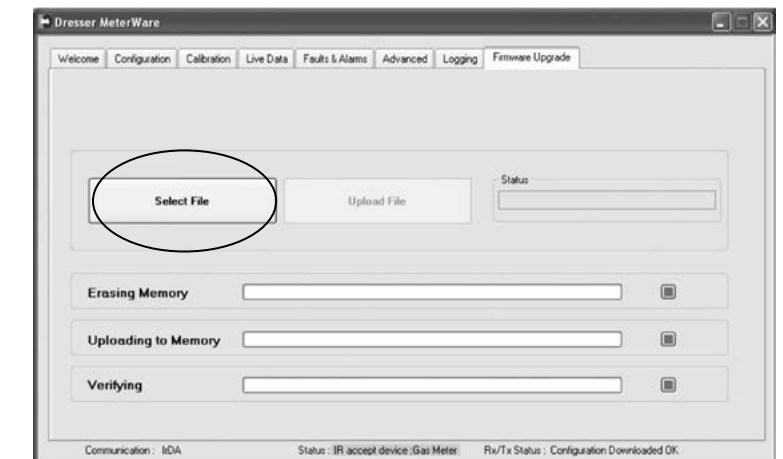

Figure 15.3 - Firmware Upgrade Screen
- B. From the next screen, click **Select File**. Refer to Figure 15.3.